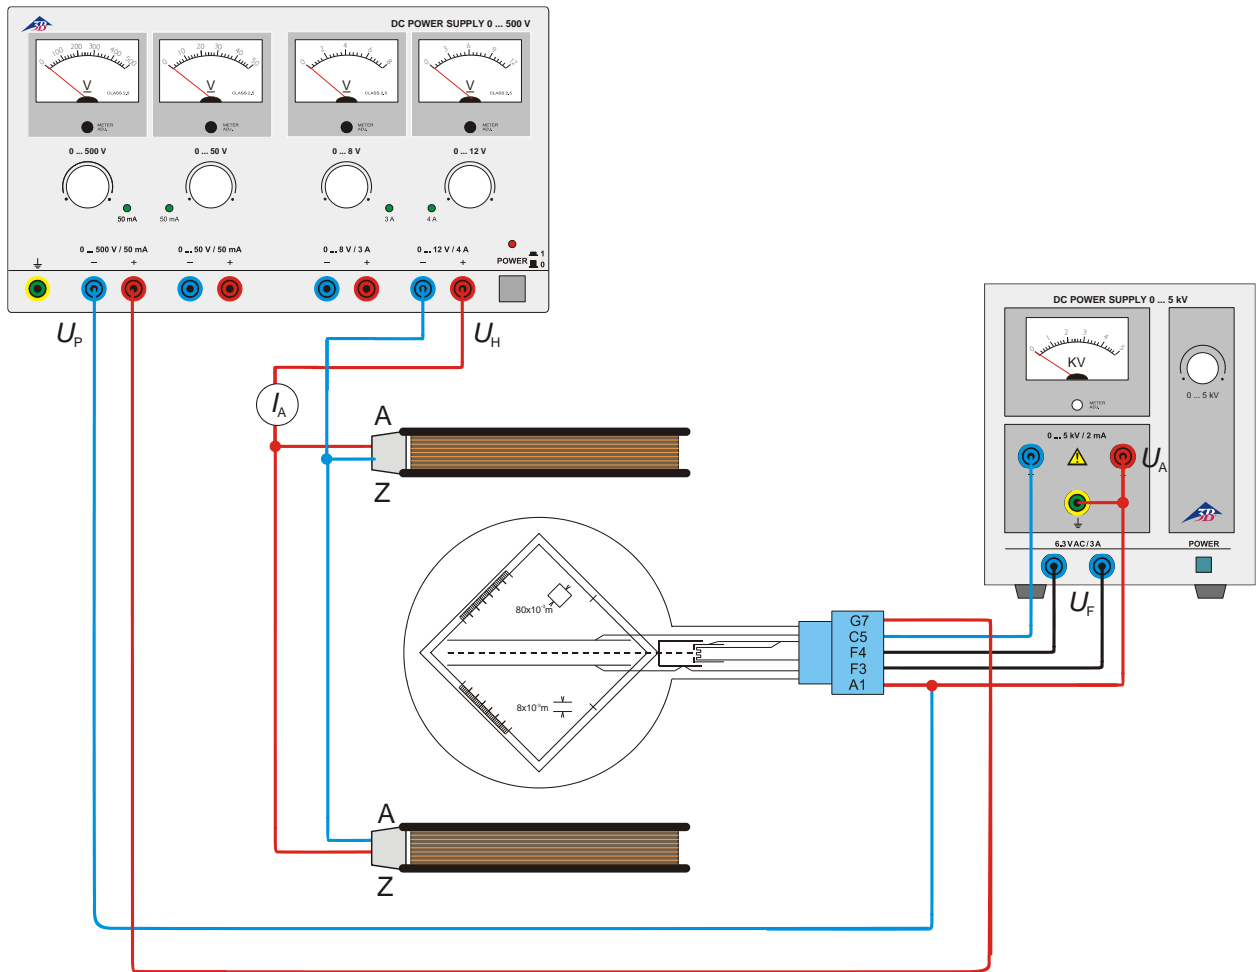

Fig. 4 Determining e/m by means of field compensation
- Set up the experiment as in Fig 4.